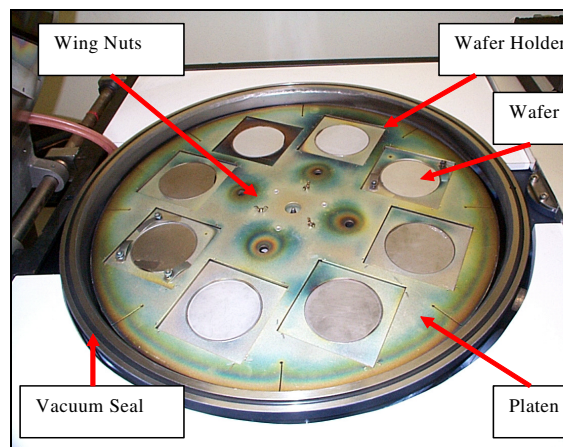

Figure 7: Inside the Vacuum Chamber with the Platen
- 6.3.2 Remove all of the wafers, dummies and wafer holders from the platen, shown in **Figure 7**.